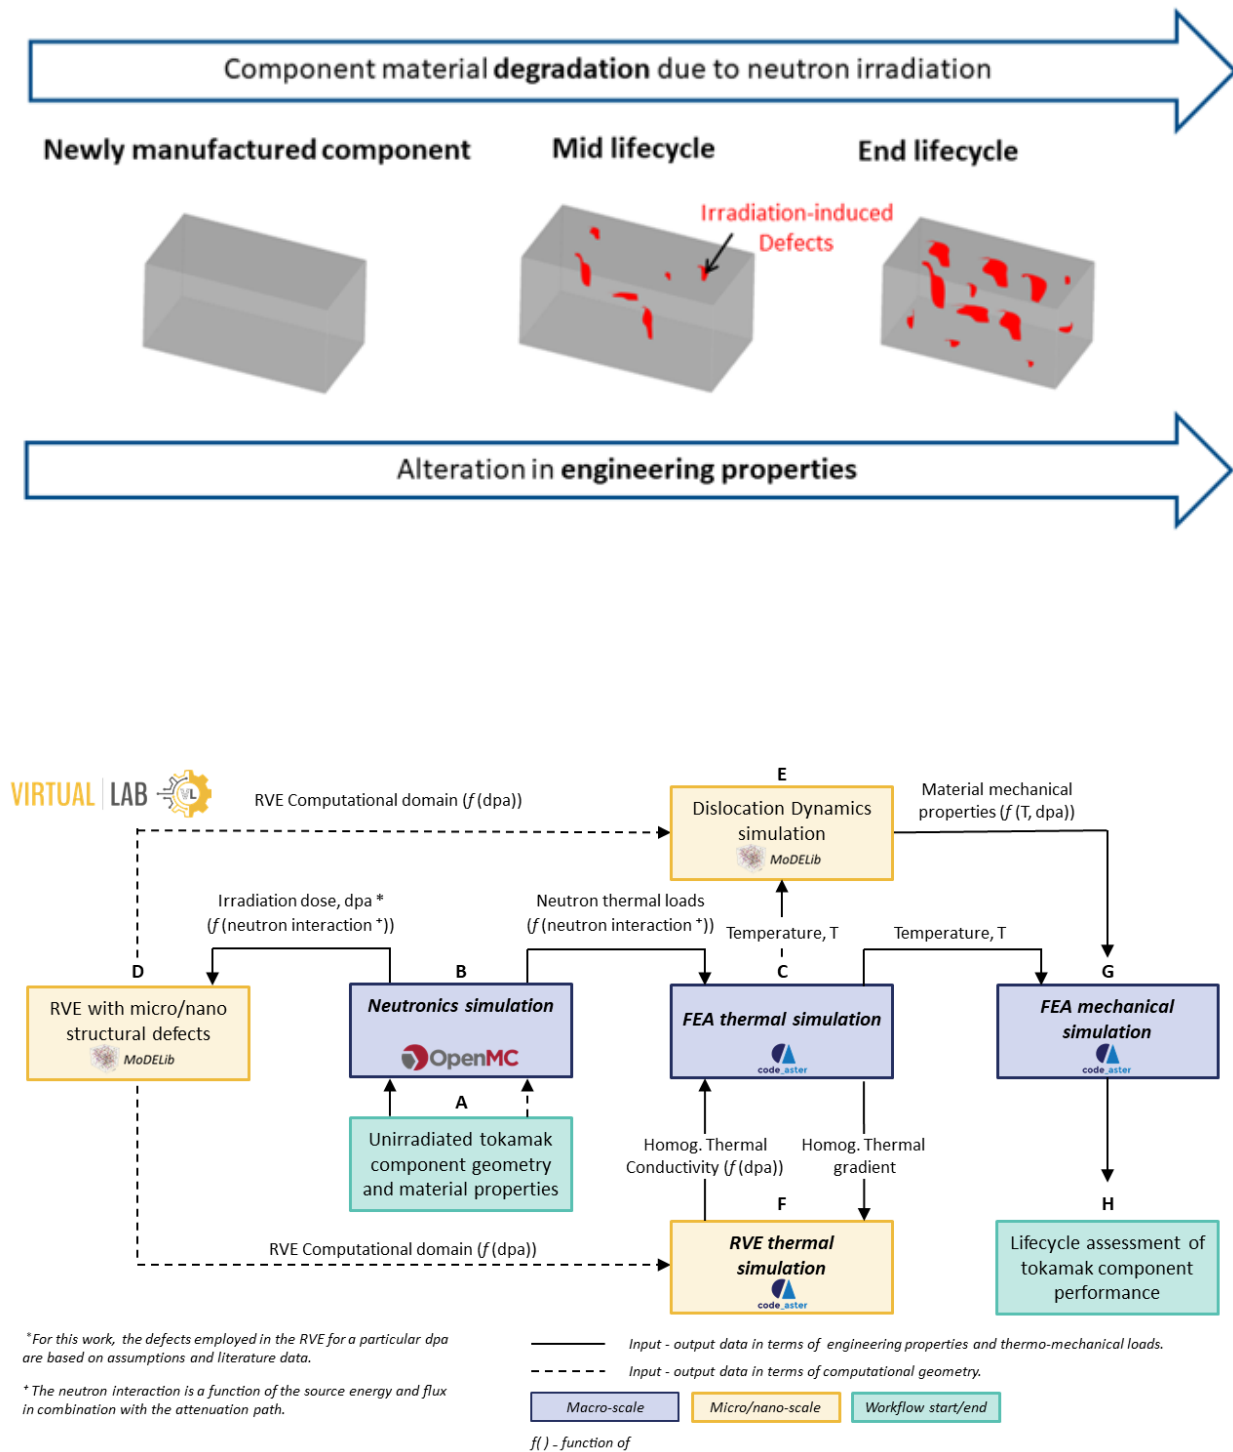

Fig. 6.34: Schematic diagram of the workflow for the developed platform.
The workflow is employed in **VirtualLab** in the form of a multi-scale hierarchical computational predictive capability to link the neutron irradiation-induced micro/nano scale defects response to the mechanical behaviour of tokamak components as shown in Fig. 6.34.
The letters (A)-(H) in the Fig. 6.34 denotes various stages/components of the workflow incorporated **VirtualLab**. The neutron heating values are calculated in the Monte-Carlo based neutronics simulations from **OpenMC** (B) which are implemented as thermal loads for finite element simulation (FEA) in **Code\_Aster** (C). The damage energy obtained from